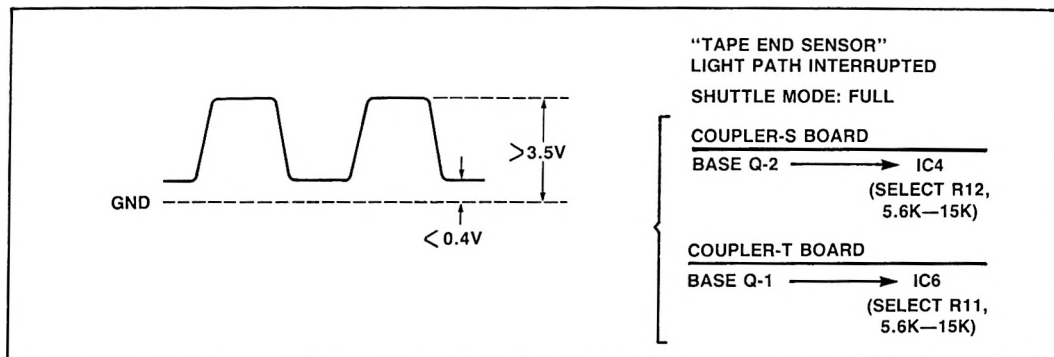

Figure 3
5. When IC4 has been replaced, R12 on the Coupler-S Board must be selected in order to meet the specification in Figure 3.
When IC6 has been replaced, R11 on the Coupler-T Board must be selected in order to meet the specification in Figure 3.